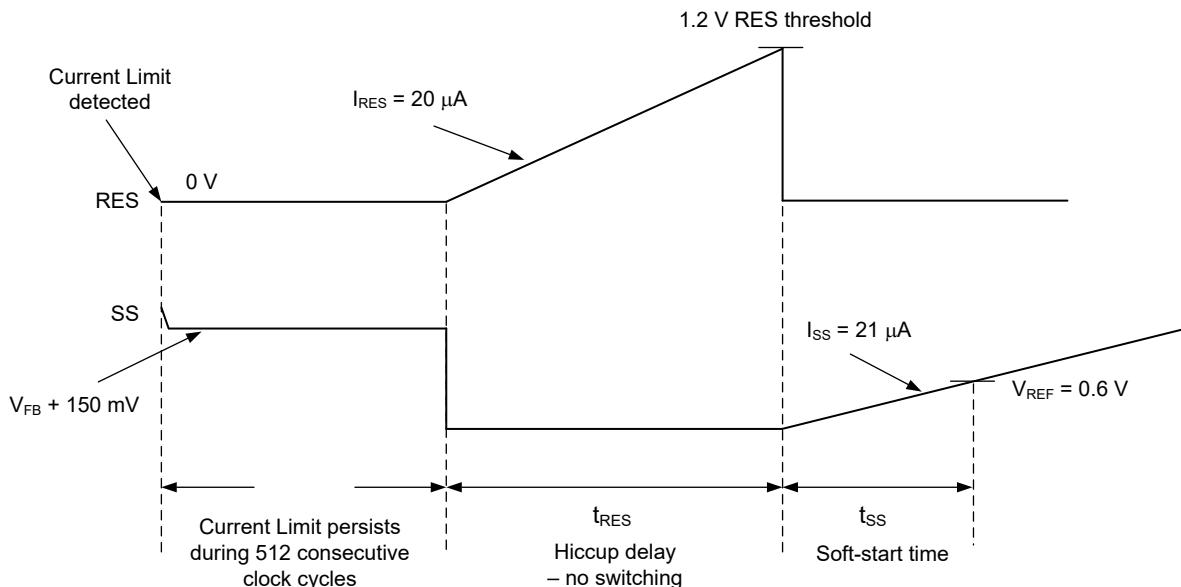

Figure 9-6. Hiccup Mode Timing Diagram
The LM5143 includes an optional hiccup mode protection function that is enabled when a capacitor is connected to the RES pin. In normal operation, the RES capacitor is discharged to ground. If 512 cycles of cycle-by-cycle current limiting occurs, SS is pulled low and the HO and LO outputs are disabled (see Figure 9-6). A 20- μA current source begins to charge the RES capacitor. When the RES voltage increases to 1.2 V, RES is pulled low and the SS capacitor begins to charge. The 512-cycle hiccup counter is reset if four consecutive switching cycles occur without exceeding the current limit threshold. Separate hiccup counters are provided for each channel, but the RES pin is shared by both channels. One channel can be in hiccup protection while the other operates normally. In the event that both channels are in an overcurrent condition triggering hiccup protection, the last hiccup counter to expire pulls RES low and starts the RES capacitor charging cycle. Both channels then restart together when $V_{RES} = 1.2$ V. If RES is connected to VDDA at power up, the hiccup function is disabled for both channels.
- t_{RES} is the specified hiccup delay as shown in Figure 9-6.